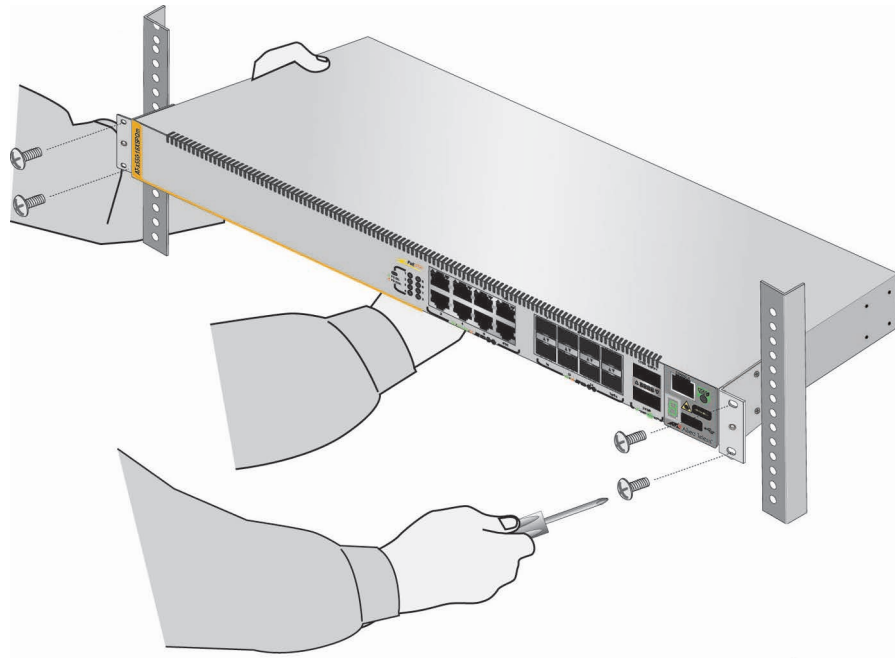

Figure 54. Installing the Switch in an Equipment Rack
3. Have another person hold the switch at the desired location in the equipment rack while you secure it using four standard equipment rack screws (not provided). Refer to Figure 54.